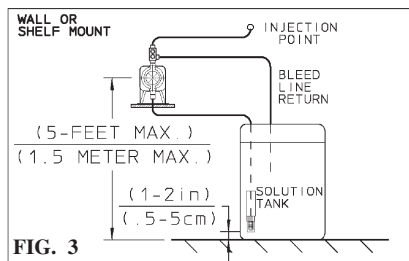

FIG. 3
Typical mounting arrangements are shown in Figures 3, 4, and 5.
- For wall or shelf mounting refer to Figure 3. Connect suction tubing to suction valve of chemical pump. Suction valve is the lower valve. Tubing should be long enough so that the foot valve/strainer assembly hangs about 1-2 inches (2-5 cm) above the bottom of chemical tank. To keep chemical from being contaminated, the tank should have a cover.